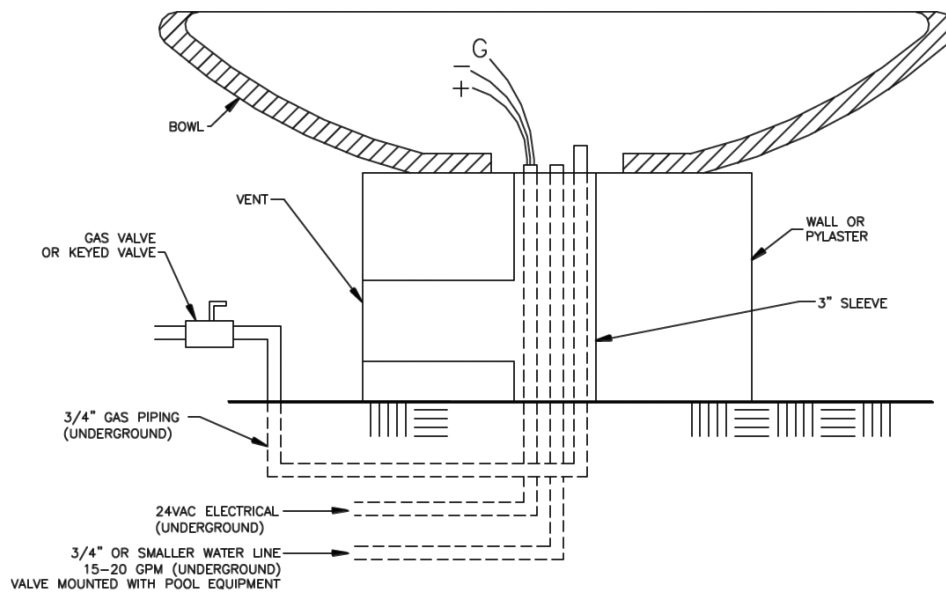

Figure 7: Optional Mounting Method without Mounting Bracket
3. At each burner assembly, check that the spark electrode is arcing across to the pilot hood. You should be able to hear and see the electrode spark. If there is no spark, make sure that the burner assembly is receiving 24 VAC from the control panel. Check that the main gas adjusting valve is in the full open position. It is located on the bottom of the burner assembly as shown in Figure 7.